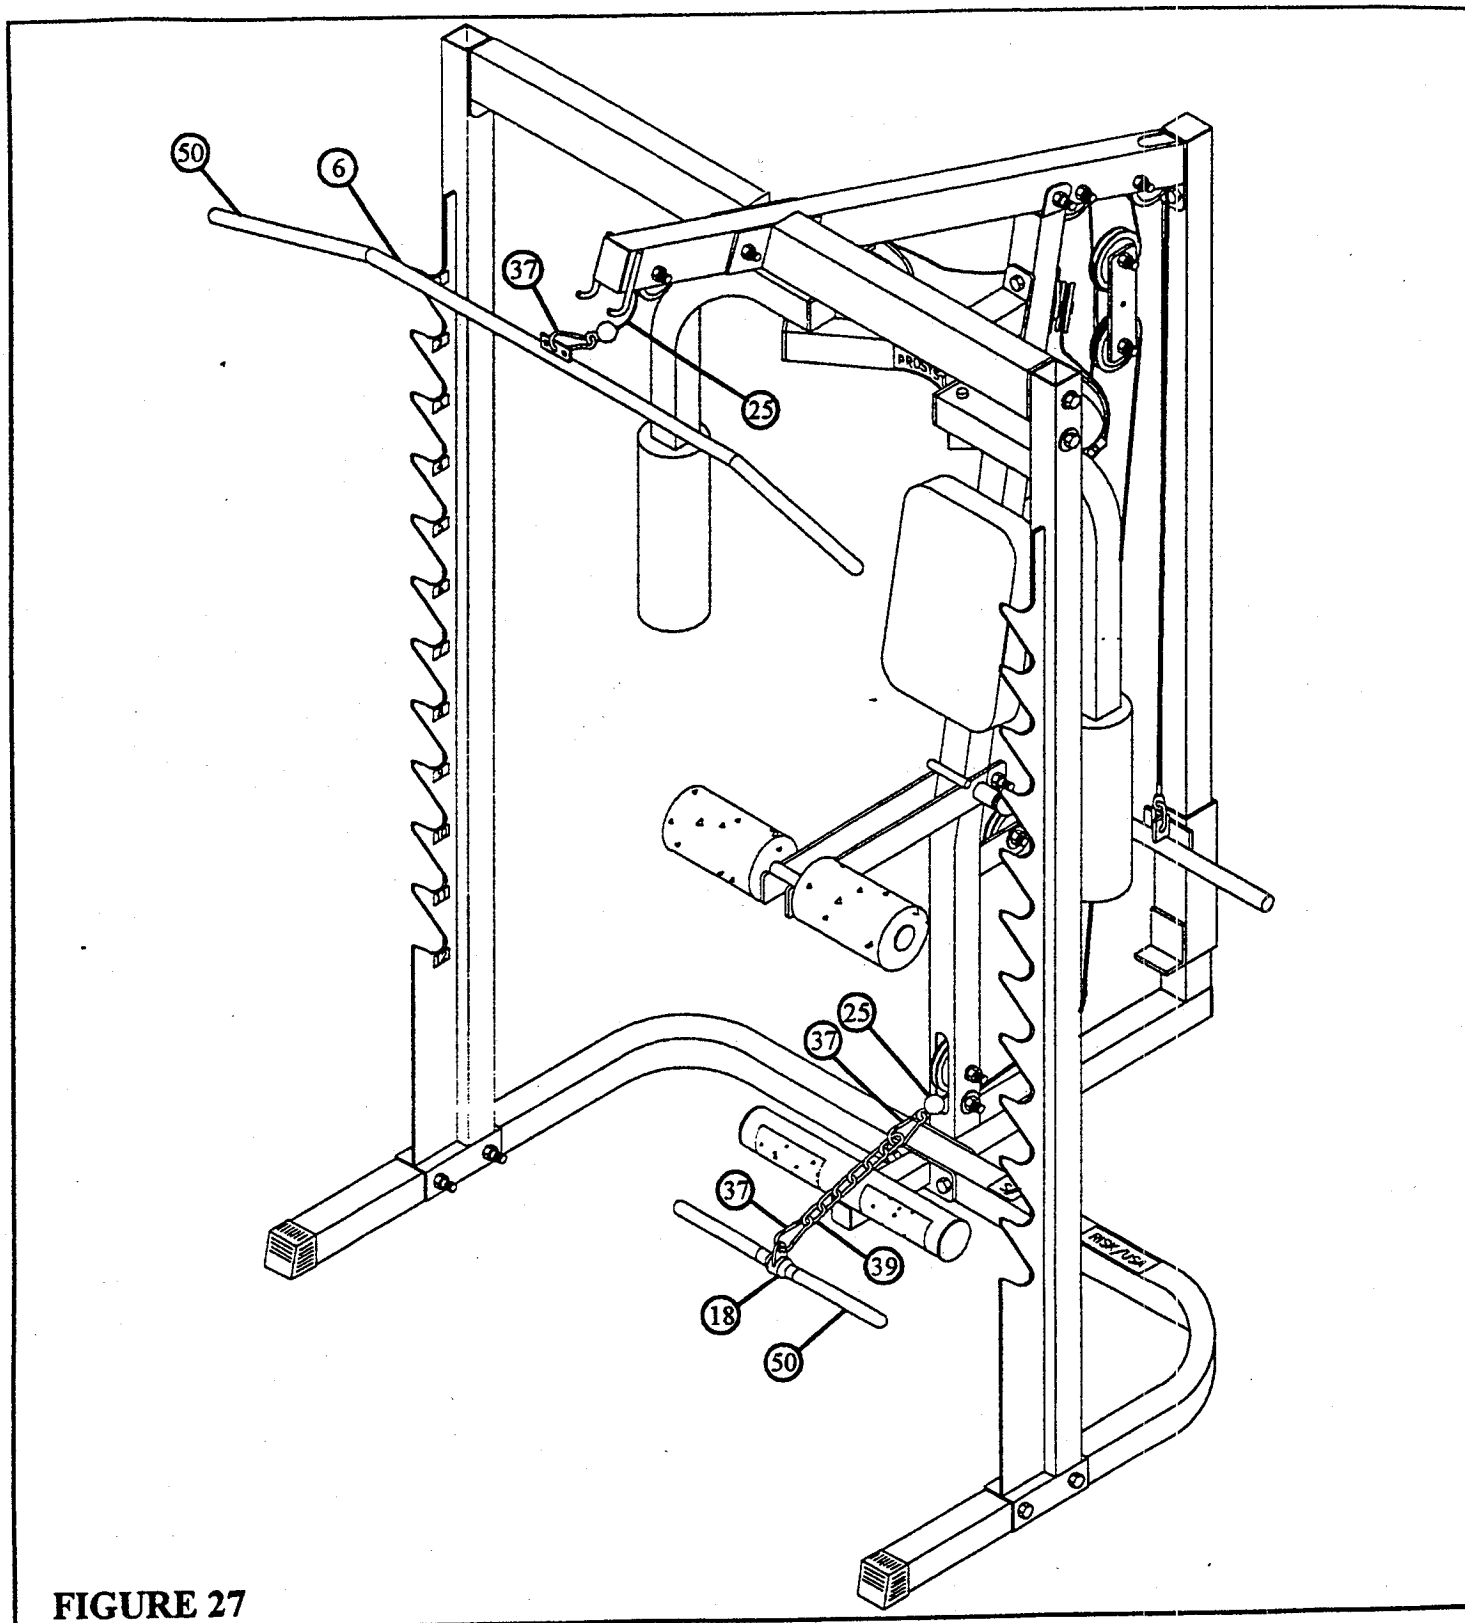

FIGURE 27
- Attach two 1 X 8" GRIPS (50) to the LAT BAR (6) and two 1 X 8" GRIPS (50) to the LOW ROW BAR (18) as shown in FIGURE 27. (TIP: Spray window cleaner on the inside of the grip to help ease assembly.)
- Attach the LOW ROW BAR (18) to the CABLE (25) using two 5/16" SNAP LINKS (37) and one CHAIN (39) as shown in FIGURE 27.
- Attach the LAT BAR (6) to the CABLE (25) using one 5/16" SNAP LINK (37) as shown in FIGURE 27.